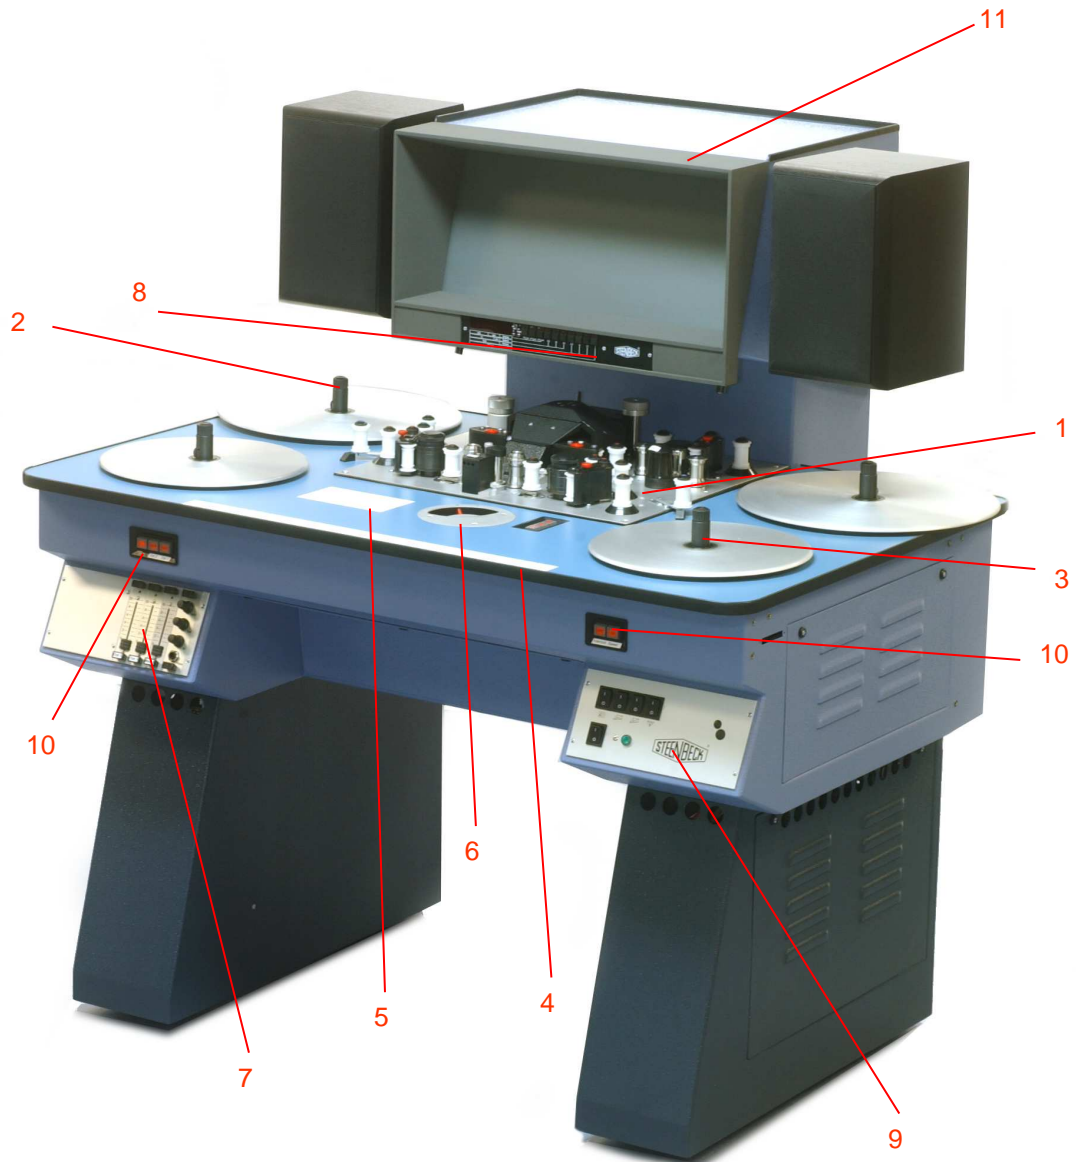

fig.1
5.1 GENERAL OVERVIEW: (fig. 1 page 9)
Use the speed switch (fig 1 #6 page 9) to view the film.